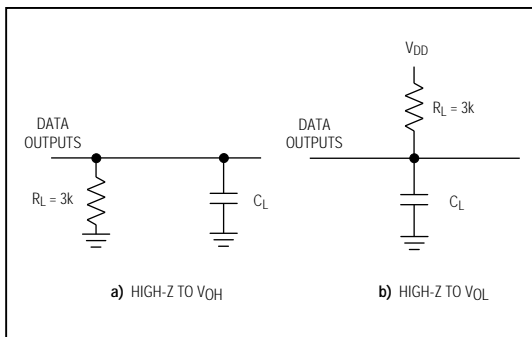
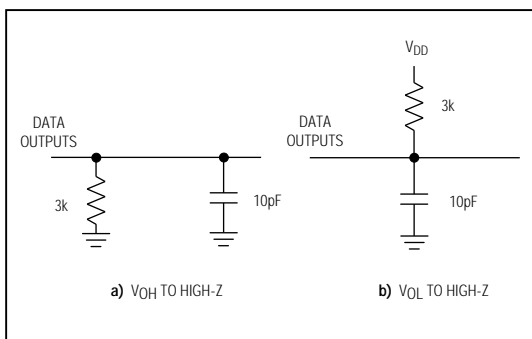

Figure 1. Load Circuits for Data-Access Time Test
Figure 2. Load Circuits for Data-Hold Time Test
**Note 4:** Input control signals are specified with tr = tf = 5ns, 10% to 90% of 5V, and timed from a voltage level of 1.6V.**Note 5:** See Figure 1 for load circuit. Parameter defined as the time required for the output to cross 0.8V or 2.4V.**Note 6:** See Figure 2 for load circuit. Parameter defined as the time required for the data lines to change 0.5V.**Note 7:** Also defined as the Minimum Address-Valid to Convert-Start Time.